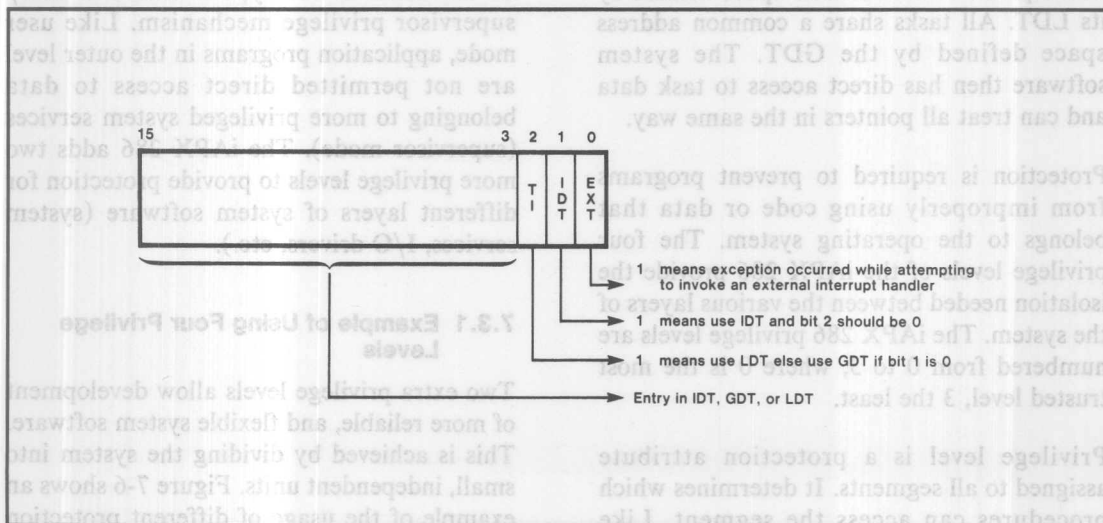

Figure 7-5. Error Code Format (on the Stack)
Any attempt by a program to load a segment register, local descriptor table register (LDTR), or task register (TR) with a selector that refers to a descriptor outside the corresponding limit causes an exception with an error code identifying the invalid selector used (see figure 7-5).
Each task operates at only one privilege level at any given moment: namely that of the code segment being executed. (The conforming segments discussed in section 11.2 permit some flexibility in this regard.) However, as figure 7-5 indicates, the task may contain segments at one, two, three, or four levels, all of which are to be used at appropriate times. The privilege level of the task, then, changes under the carefully enforced rules for transfer of control from one code segment to another.
the bits in the access byte are checked to verify legitimate descriptor type and access (see table 7-2). If any test fails, an error code is pushed onto the stack identifying the selector involved (see figure 7-5 for the error code format).